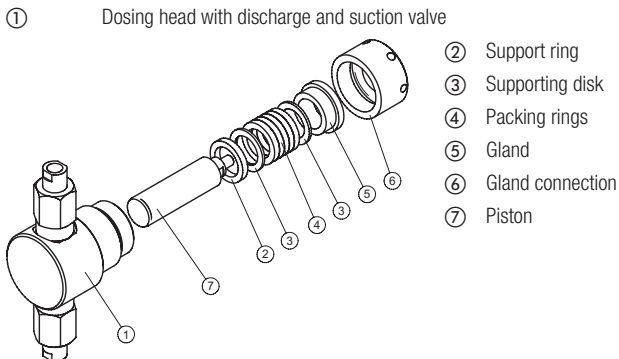

Fig. 11.1: Dosing head FEDOS E/DX
3. Loosen the gland connection ☆ (see fig. 11.1) with an appropriate tool.